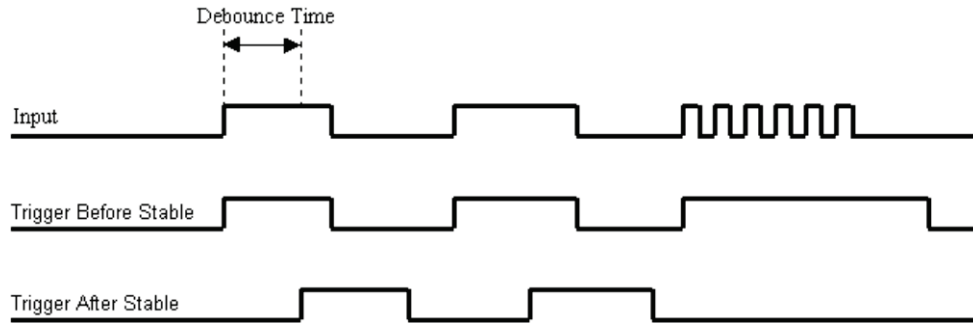

Figure 12. Optimal debounce time for trigger after stable mode
*Trigger after stable* mode behaves more like a traditional debounce function: rejecting glitches and only passing state transitions after a required period of stability. *Trigger after stable* mode is used with electro-mechanical devices like encoders and mechanical switches to reject switch bounce and disturbances due to a vibrating encoder that is not otherwise moving. The debounce time should be set short enough to accept the desired input pulse but longer than the period of the undesired disturbance as shown in Figure 12.